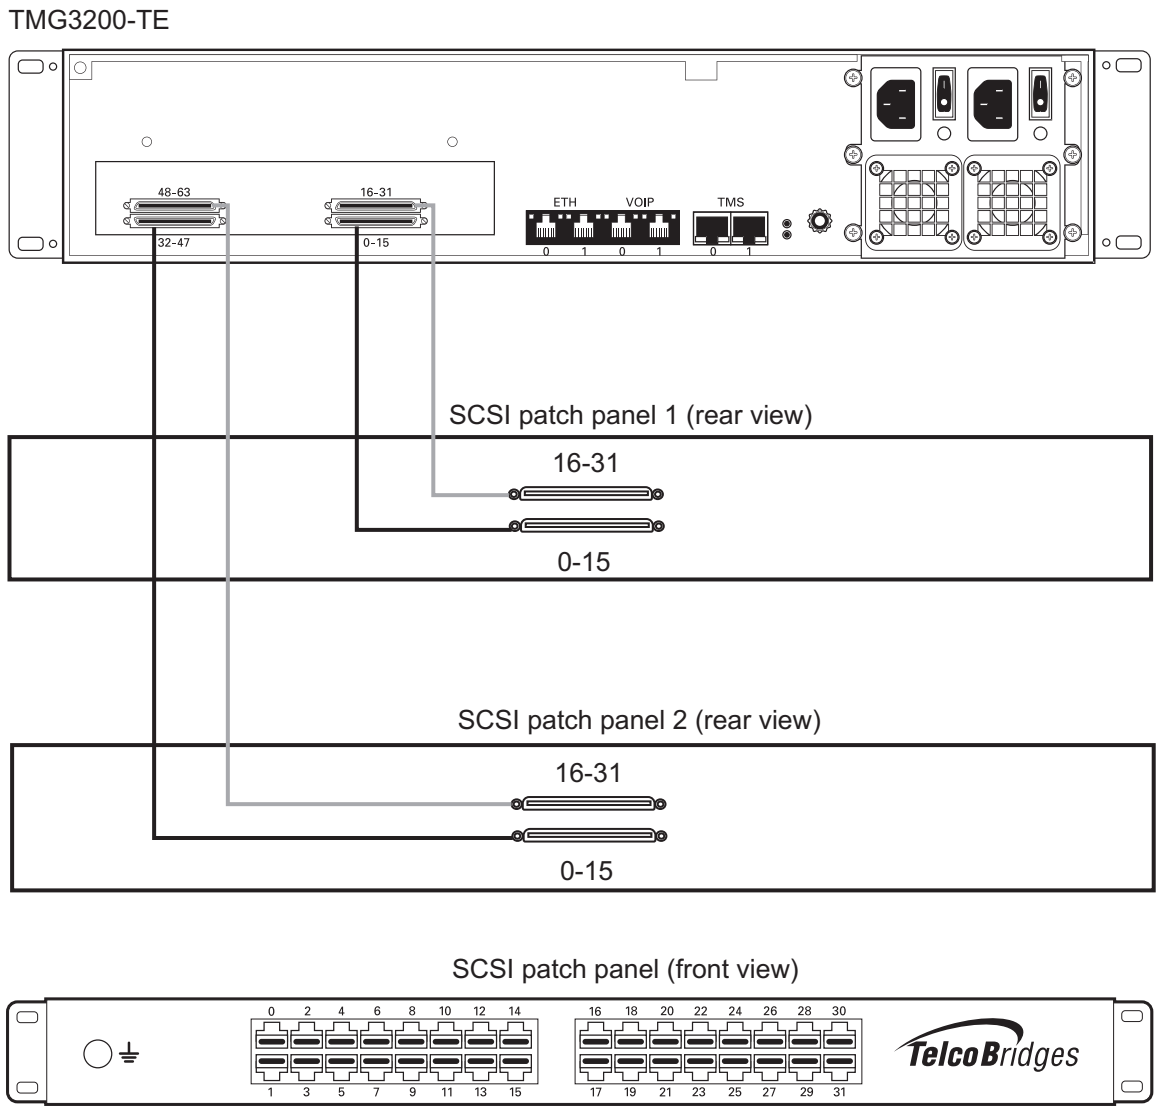

Figure 2.5 TMG3200 with SCSI connectors
1. Start with SCSI ports 0-15 located at the bottom right as shown in figure 2.5 on page 22. Connect one SCSI cable between this port and SCSI patch panel number 1, ports 0-15. Connect SCSI ports 16-31 to patch panel number 1, ports 16-31.